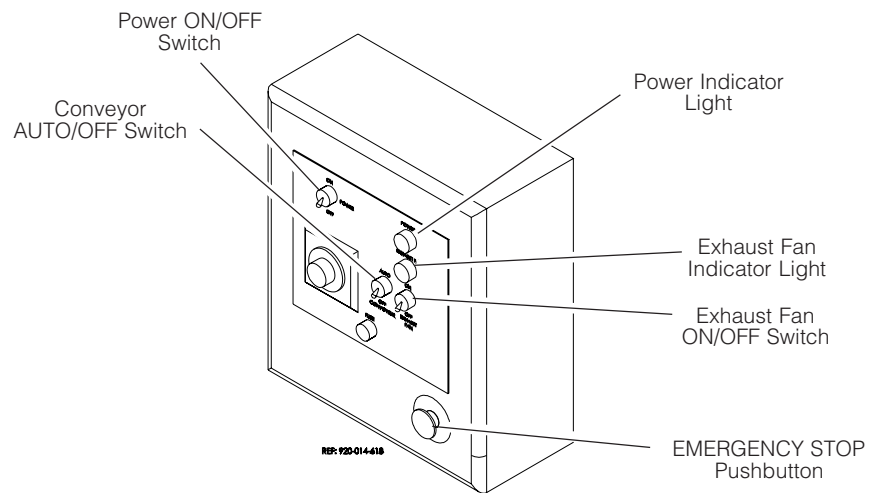

Figure 5-3. Controls
3. Position the Power switch to ON (see Figure 5-3).
4. Position the Conveyor switch to AUTO (see Figure 5-3).
5. Position exhaust fan switch to ON (if option applies, see Figure 5-3).